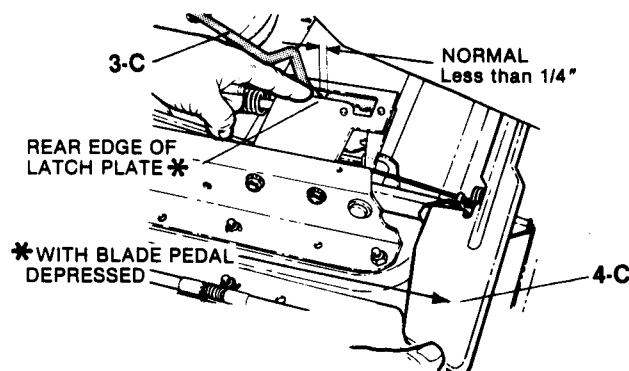

FIG. 10 - BLADE LEVER TRAVEL
As the brake band wears, The BLADE lever will gradually stop further rearward in the slot of the BELT COVER. Blade brake adjustment is required when the lever stops more than 1/4" behind the latch plate. Refer to FIG. 10. The adjusting point s shown in FIG.11. **With the engine STOPPED**, the adjustment is made as follows:
STEP 3: Release the BLADE pedals to allow the BLADE lever to move to the OFF position, then depress the BLADE pedals again. Check the clearance between the forward edge of the BLADE lever and the rear edge of the latch plate - there should be less than 1/4" (see FIG. 10) clearance. Repeat the procedure in STEP 2 if needed, to obtain correct clearance. Reinstall the BELT COVER.